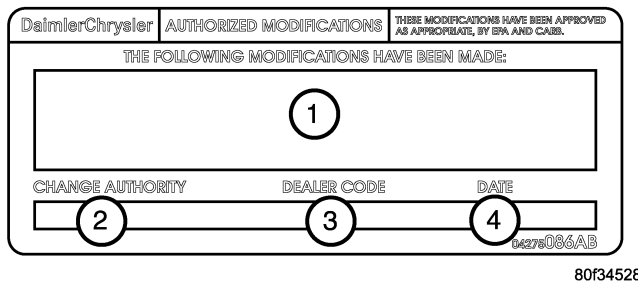

Fig. 1 AUTHORIZED MODIFICATION LABEL
17. Type the necessary information on the “Authorized Modification Label” p/n 04275086AB and attach near the VECI label (Fig. 1).